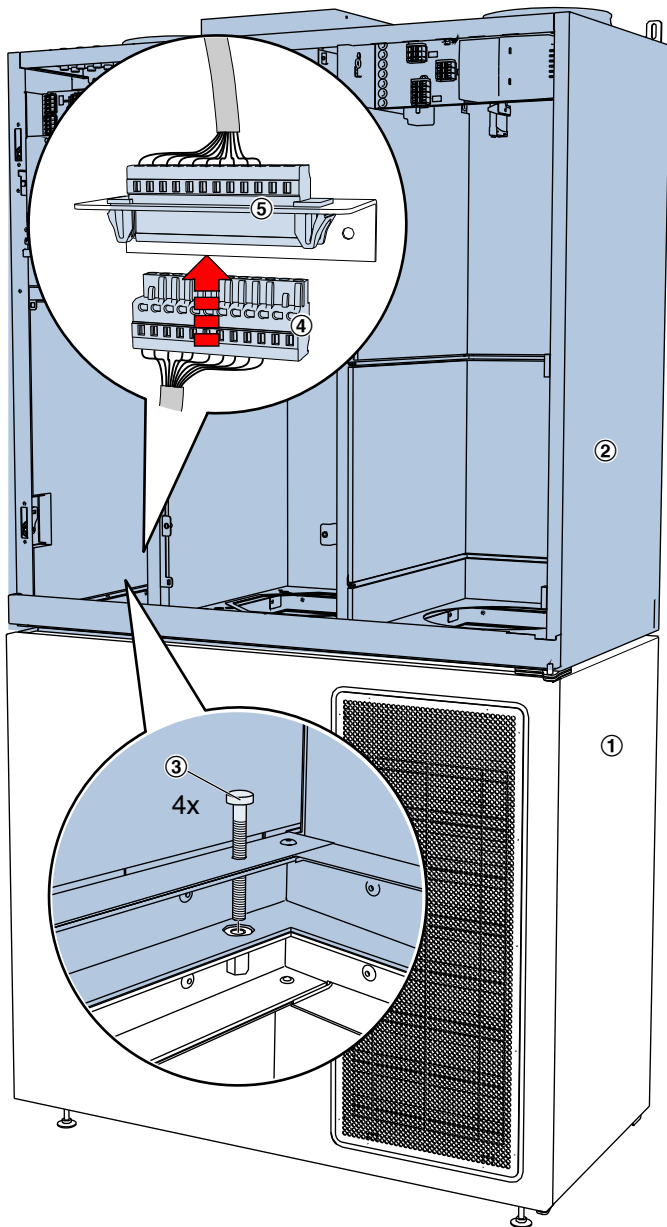

Fig. 17: Fixing of the top of the device
11. ▶ Align the top of the device with the mounting base on the side and back. When the correct position is reached, the top locks onto the mounting base. Then screw in the four connecting screws (Fig. 17 /3) at each corner.
Insert the plug (Fig. 17 /4) into the socket (Fig. 17 /5).